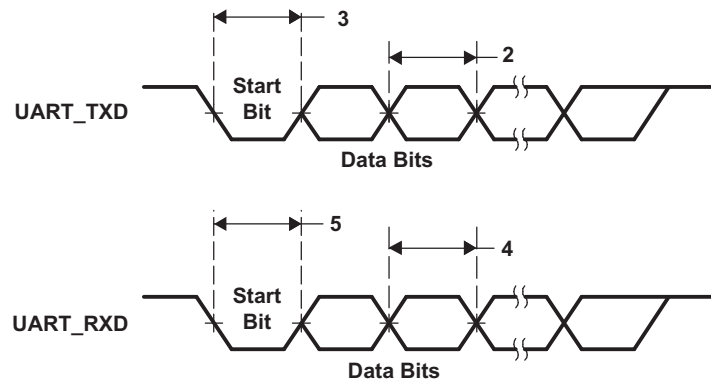

Figure 5-22. UART Transmit and Receive Timing
Table 5-21. Timing Requirements for UART Receive^{(1) (2)} (see Figure 5-22)
(1) U = UART baud time = 1/programmed baud rate.
(2) These parametric values are measured at DVDDIO = 3.3 V, 2.75 V, and 2.5 V.
Table 5-22. Switching Characteristics Over Recommended Operating Conditions for UART Transmit^{(1) (2)} (see Figure 5-22)